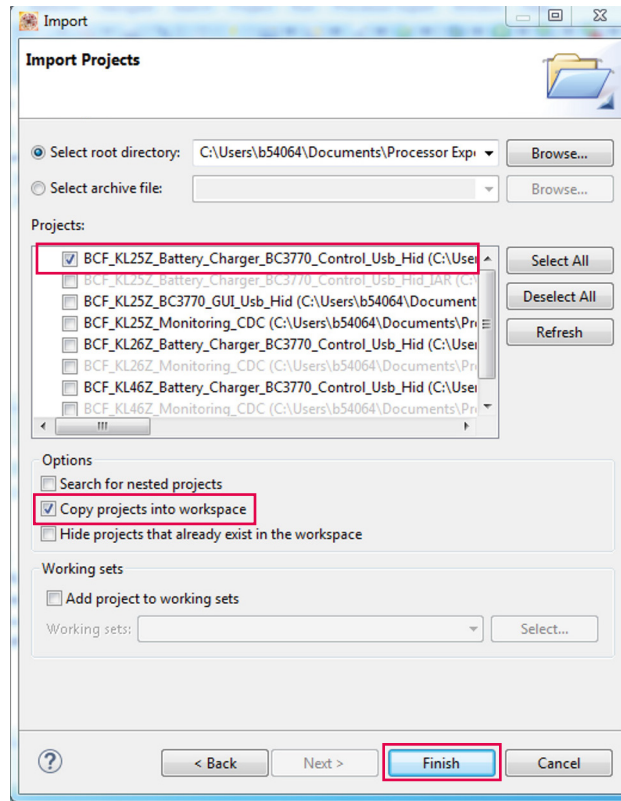

Figure 12. Example project import (b)
2. Locate the example in folder: `BC3770_PEx_SWExamples\KDS_Examples` (see Figure 12). Then click **Finish**.